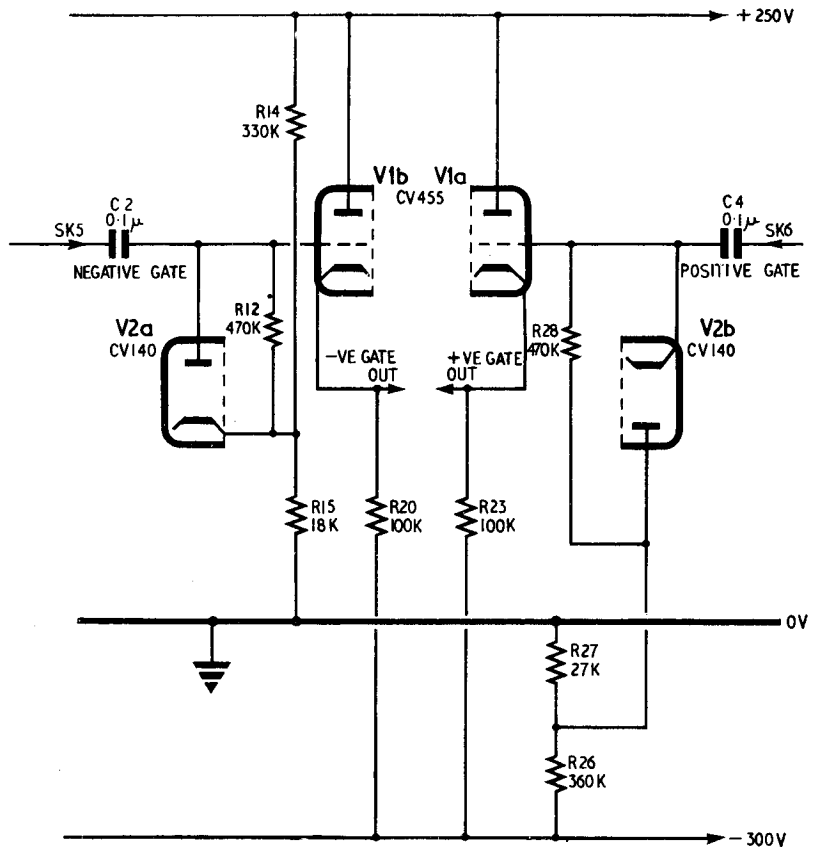

Fig. 6. Gate cathode-followers (simplified)
9. The DC levels of the gating waves are indeterminate on arrival from the radar office and have to be accurately set before application to the gating diodes, so that the waveforms shall straddle earth level symmetrically. Accordingly they are AC-coupled from SK5 (negative gate) and SK6 (positive gate), and then DC-restored by the diodes V2A and V2B (CV140) (*fig. 6*). V2A cathode is returned to a positive potential at the junction of R14 (330 K Ω) and R15 (18 K Ω), chosen so that the negative gating wave is held wholly below +15V when fed out from the cathode-follower V1B. Similarly, the anode of V2B is returned to a negative potential at the junction of R26 (360 K Ω) and R27 (27 K Ω) such that the positive gating wave is held wholly above -15V at V1A cathode.